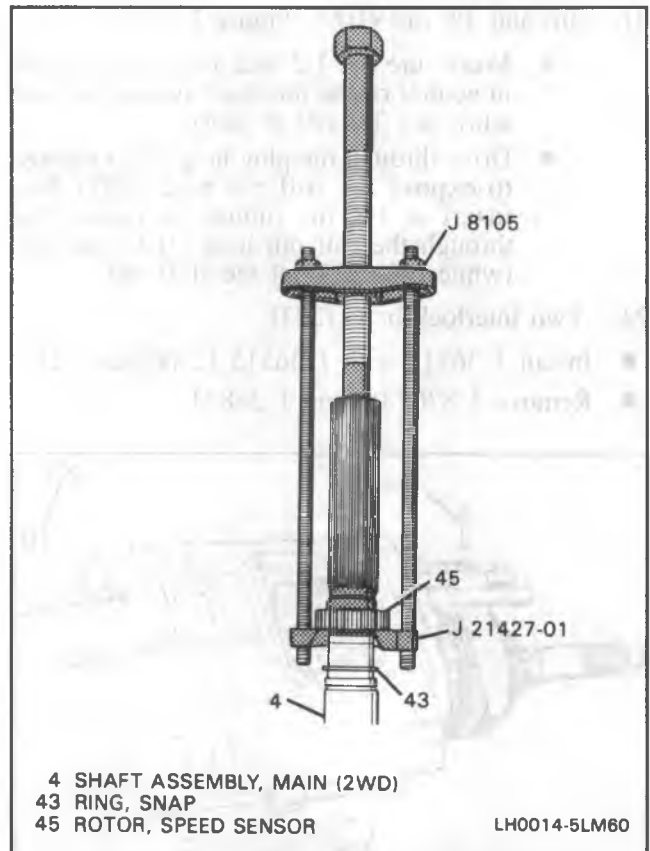

Figure 14 Removing 2WD Speed Sensor Rotor
23. Bolts (304) and (305).
24. 2WD rear housing assembly (300).
25. 2WD output shaft bearing retainer (302).
26. Bearing (203).
- Slide the snap ring (43) away from the rotor to make clearance for J 21427-01 (Figure 14).
27. Speed sensor rotor (45) using J 21427-01 and J 8105
28. Snap ring (43).